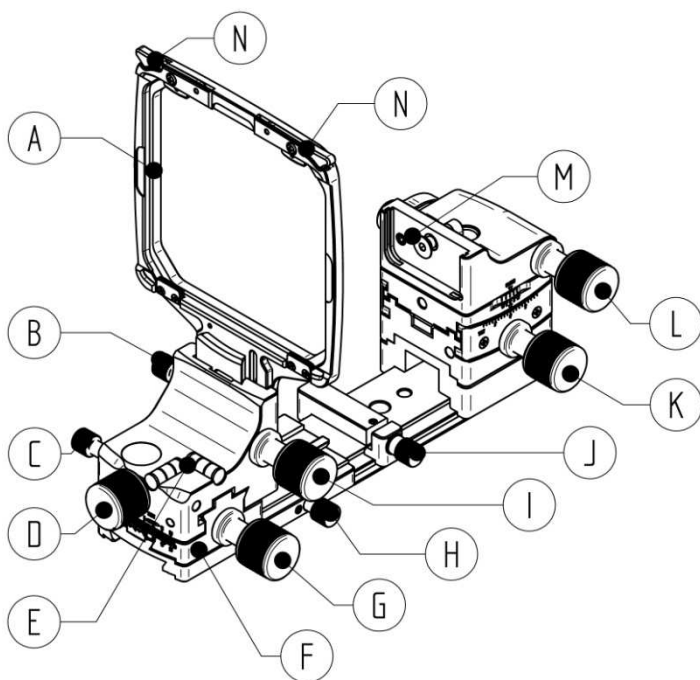

Figure 1: Cambo Actus front view
- Unlock the fast focus slider (knob H, figure 1)